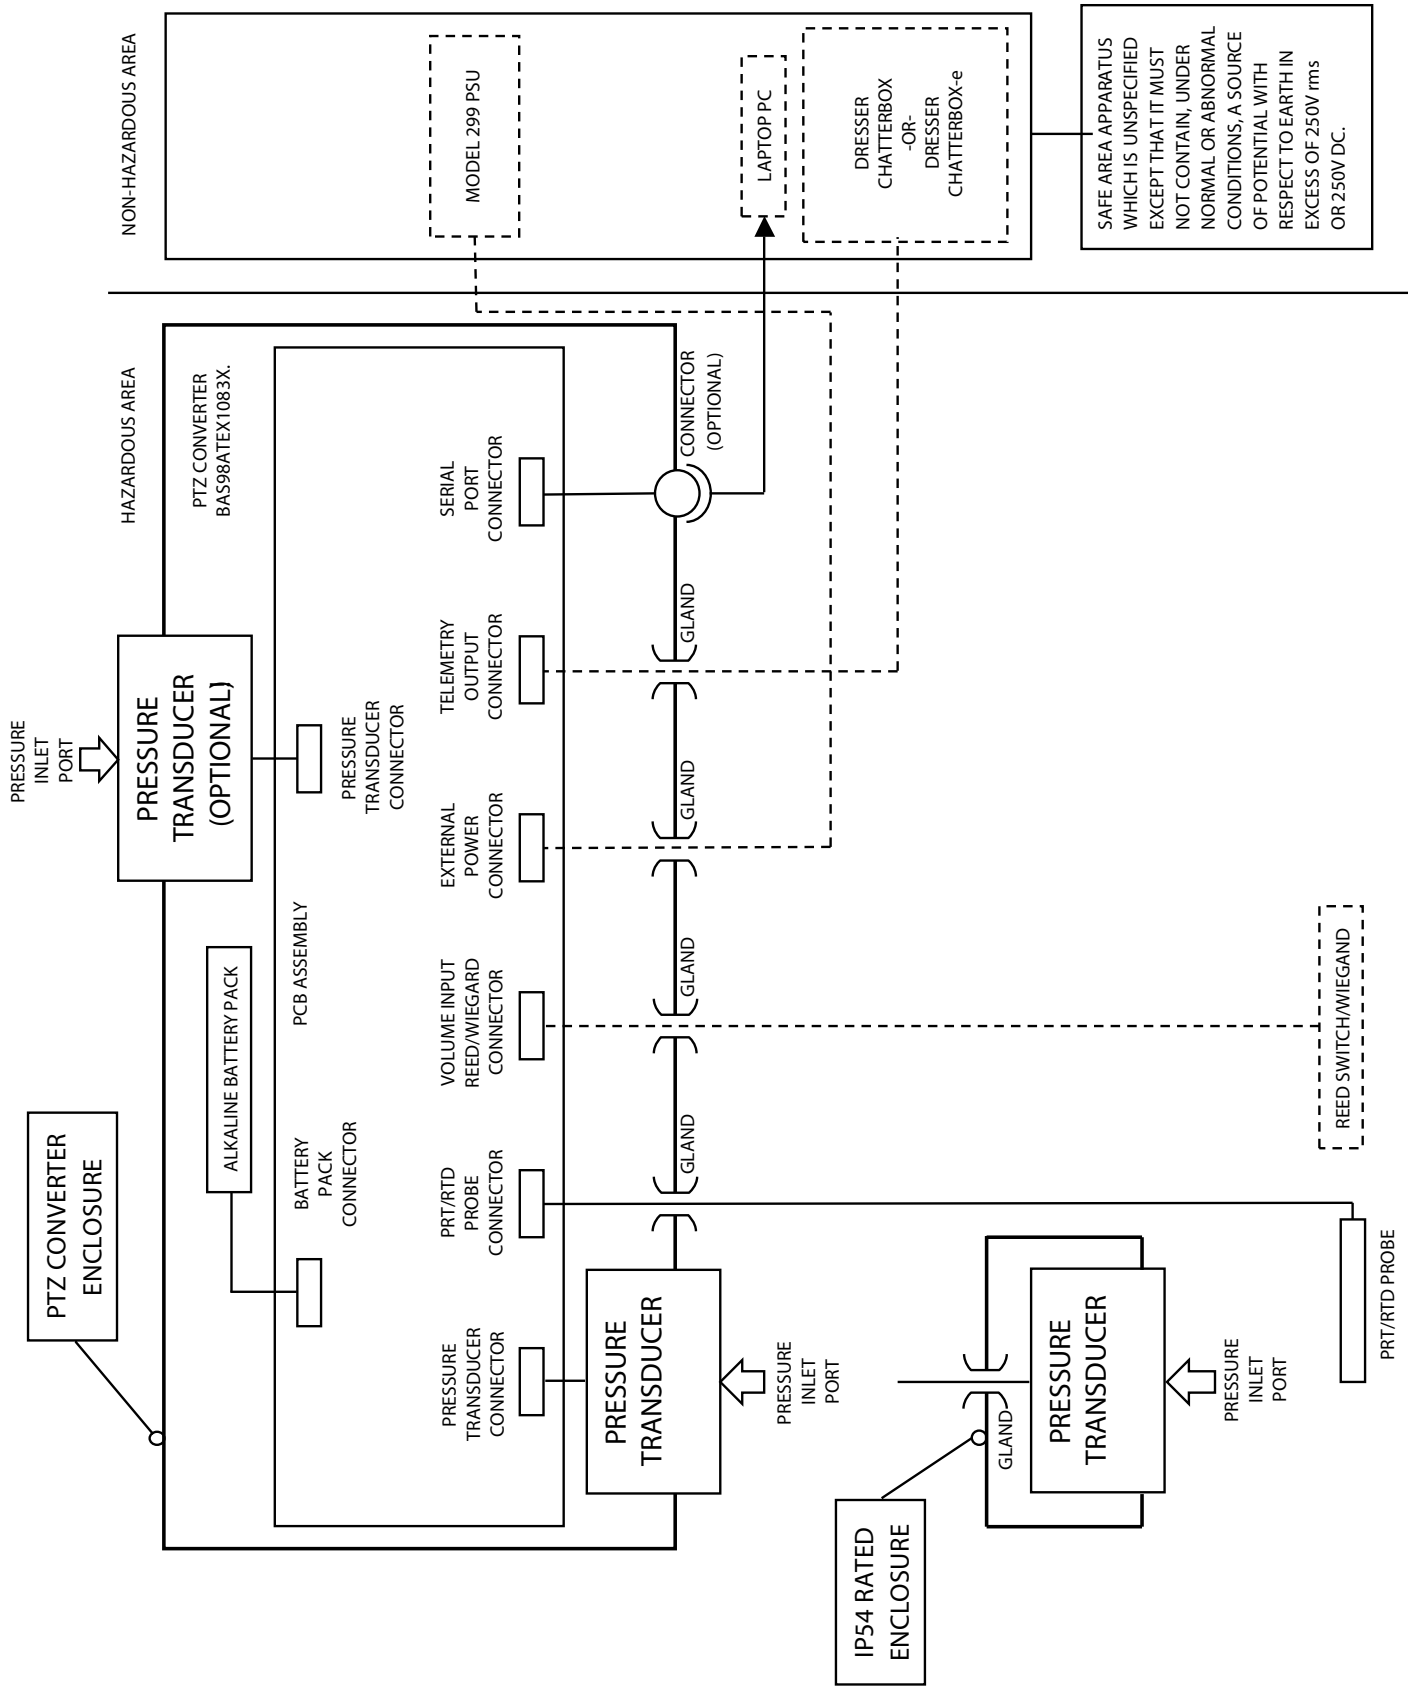
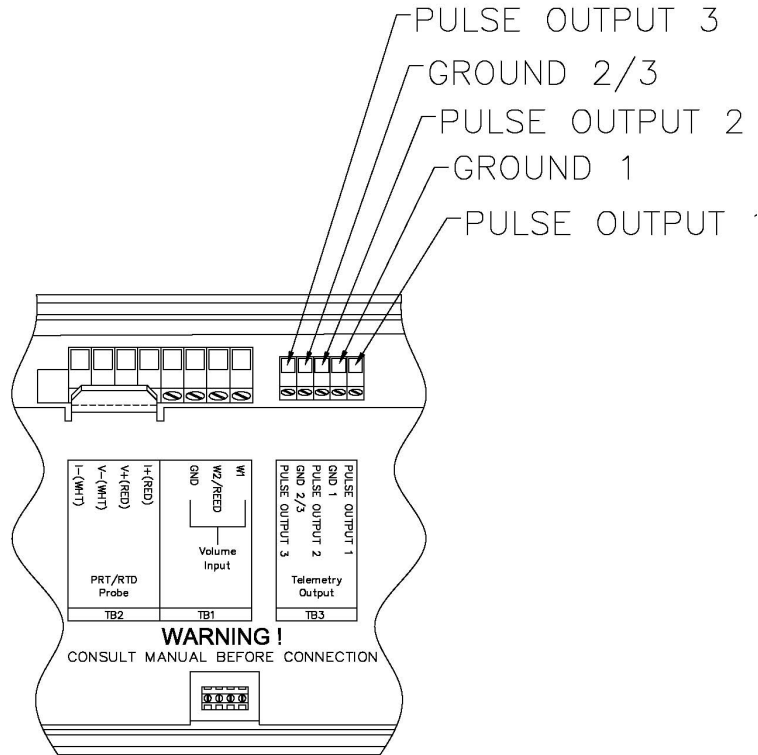

Figure 2 – Intrinsic Safety System Diagram
Figure 7 – Telemetry Output Connections (TB3)
The connection of the MC2 to other instruments must be carried out in accordance with the Intrinsic Safety System Diagram shown in Figure 2 (Intrinsic Safety System Diagram for Baseefa Compliance). Use Figure 2 (Intrinsic Safety System Diagram for Baseefa Compliance) to achieve compliance with Baseefa requirements, as follows:
7. The serial port may be connected to the I.S. GSM modem (Cert No. BAS99ATEX7049) in accordance with Figure 2 (Intrinsic Safety System Diagram). The cable must comply with note 5.
Where an MC2 installation must meet Intrinsic Safety requirements, refer to the Intrinsic Safety System Diagram (Figure 2) and section 4-Safety, before commencing installation. It is essential to follow any National Codes of Practice dealing with Intrinsically Safe installations. All Intrinsically Safe circuits must be segregated from non-I.S. circuits. The transducers used in the MC2 are intrinsically safe.
Connection of non intrinsically safe equipment not detailed in the System Drawing (Figure 2) into MC2 must be properly assessed by the user, and the manufacturer (Dresser) will not take responsibility for the overall safety of the system.
Figure 7 (Telemetry Output Connection (TB3)) shows the connections for the telemetry output. Other Dresser Utility Solutions approved products, such as the Dresser Chatterbox (isolation unit) may be connected to the telemetry outputs. Any equipment connected to the telemetry output must be individually assessed to ensure that the system is safe. Connection to intrinsically safe equipment not detailed in the system drawing (see Figure 2 (Intrinsic Safety System Diagram for Baseefa Compliance)) must be properly assessed by the user, and the manufacturer (Dresser Utility Solutions) will not take responsibility for the overall safety of the system.